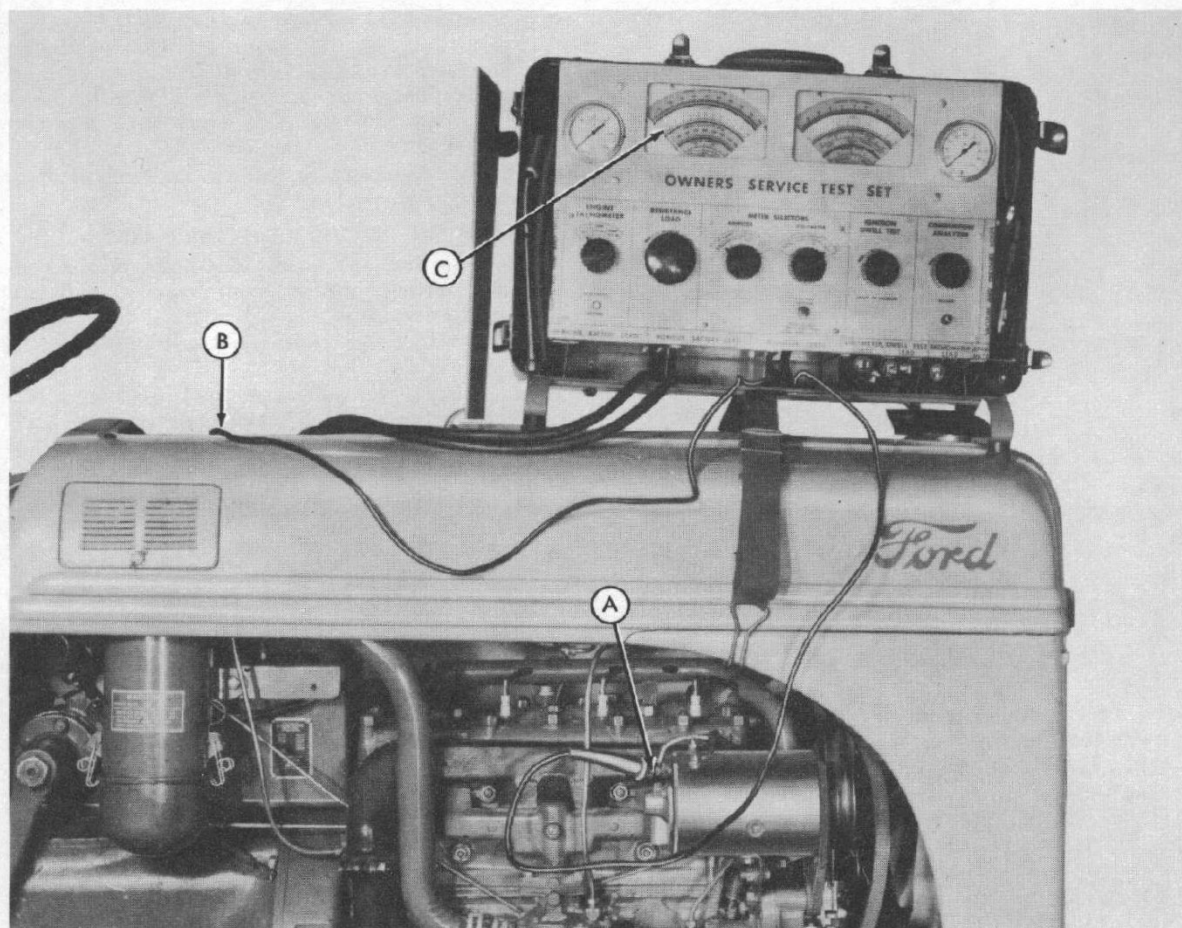

Fig. 9
Step 3—Connect the positive amperage lead to the armature terminal on the generator as shown at (A-Figure 9).
Step 4—Connect the negative amperage lead (B-Figure 9) to the negative battery post.
Step 5—Stall the pulley by hand and check the reading on the ampere scale (C-Figure 9). The reading should be approximately 15 amps. on the 3-brush generator and should remain constant. The reading should be